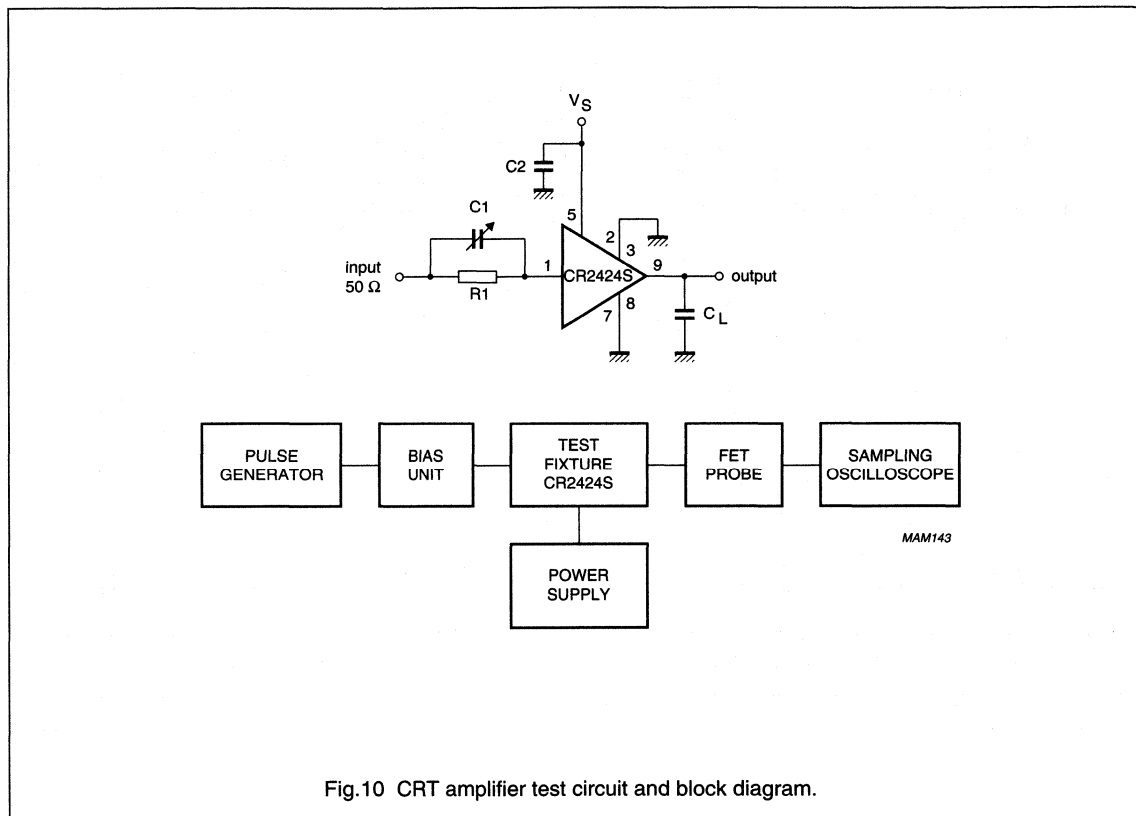

Fig.10 CRT amplifier test circuit and block diagram.
$T_{mb} = 25\text{ }^{\circ}\text{C}$ ;  $C_L = 8.5\text{ pF}$ ; measured in test circuit (see Fig.10); unless otherwise specified.
1. Input signal is a 100 kHz square wave of 3.25 V (p-p), with 1.5 V (DC) offset (50  $\Omega$  source).
2. Input signal is a 100 kHz square wave of 3.4 V (p-p), with 1.65 V (DC) offset (50  $\Omega$  source).
4. Measured  $V_O/V_I$  (Figs 2 and 6) at input test circuit (see Fig.10).
5. Measured  $V_O/V_I$  (Figs 3 and 7) at input module (see Fig.10).
## Components used in test circuit (see Fig.10)
## Equipment used in test circuit (see Fig.10)